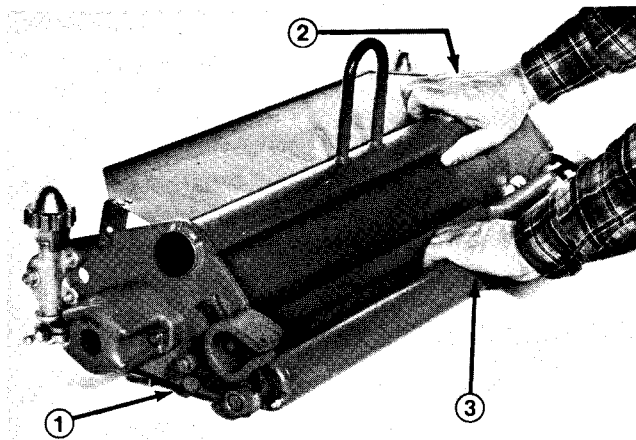

Figure 12
3. With cutting unit reel blades positioned on the plate, hold cutting unit securely and push down on the rear roller assembly until it contacts the working surface across the full length of the roller (Fig. 12).